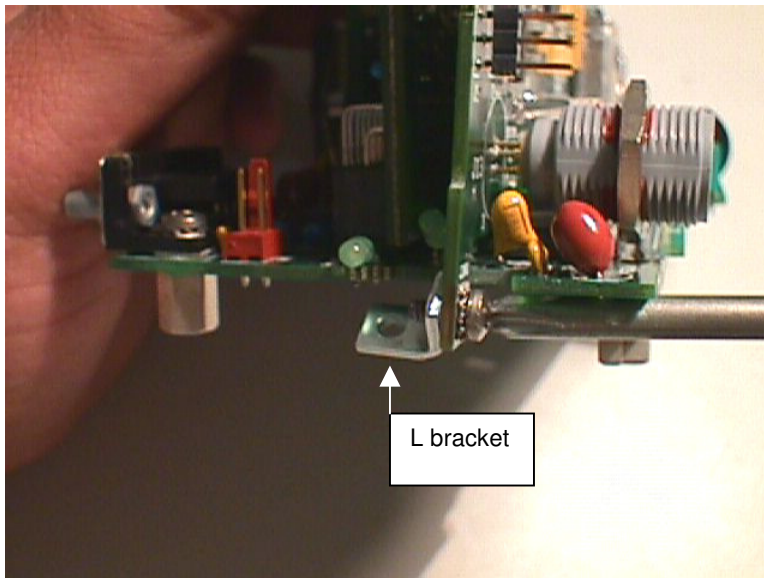

Figure 7-10 The L bracket
6. Loosen L bracket screw (Fig. 7-10). Be sure to check that the alignment of bottom screws is adequate, then install rubber foot, flat head steel (in center position), and flat head nylon screw (right side). Tighten nylon screw first. Do not over-tighten nylon screw. Then tighten L bracket screw.
4. Remove L bracket by removing Phillips screw from under Interconnect PCB at Main PCB (marked J201). (See Figure 7-10). This step is not necessary for Rev 2 or higher Interconnect Board.